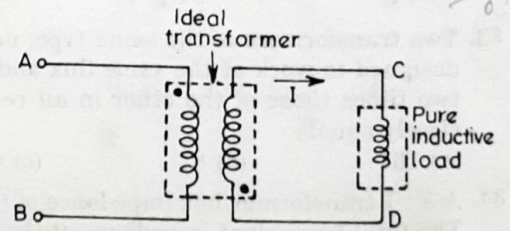

Fig. C.44.
43. For the system shown in Fig. C.44, the phase relation of current I with respect to the voltage V_{AB} is